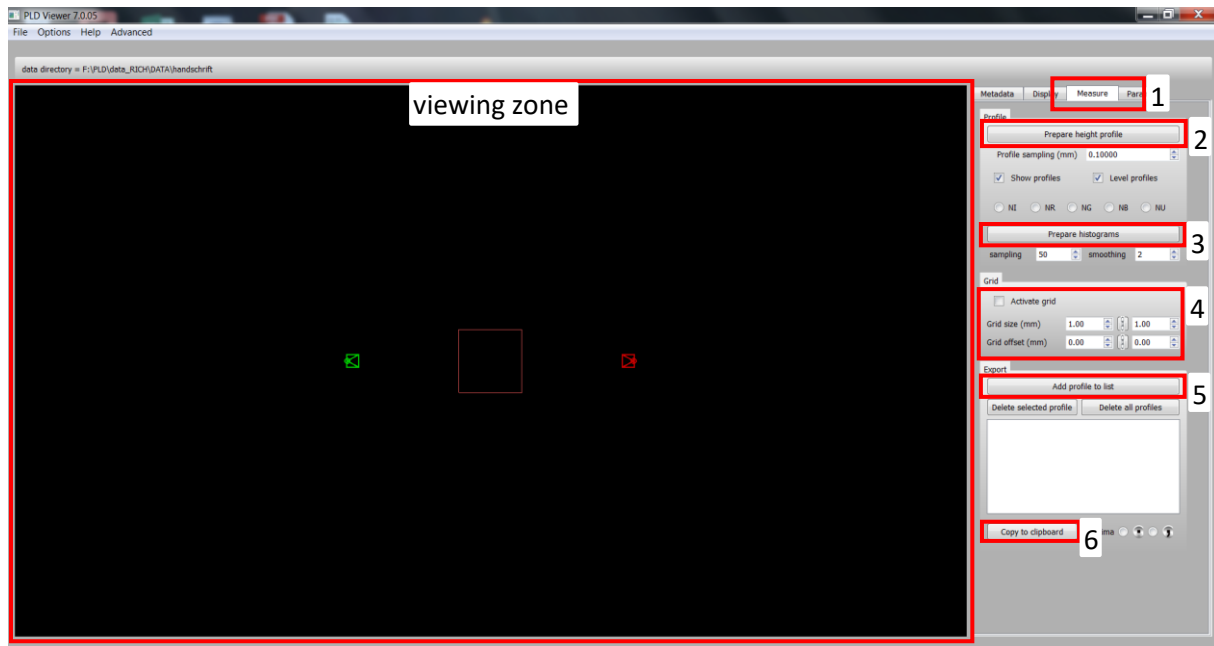

Fig. 2 - The viewing interface when opened, before uploading a dataset, with the Measure tab open
To use the measure tool only the desktop viewer, such as the PLD viewer 7.0.05 interface, can be used. It can be generated with both the compressed (zun/cun) as with the uncompressed (cfd) datasets. Go to the 'measure' tab (see Fig. 2: frame 1) and click 'Prepare height profile' (see Fig. 2: frame 2, this information will now be calculated in the background, it will take some time).⁸ Now toggle M on the keyboard to activate the 'Measure Distance/Profile' tool in the viewing zone. By dragging lines on the surface the geometric information across that line is plotted.
- In one and the same viewing zone multiple measurements can be generated. When a line is dragged and a profile is plotted in the viewing zone, add the measurement to the export-list; to do so click on the 'Add profile to list' (see Fig. 2: frame 5). Now multiple extra profiles can be generated with the Measure Distance/Profile tool by repeating this action. At any moment these profile lines can be exported by clicking 'Copy to clipboard' (see Fig. 2: frame 6), these chart line coordinates can thereafter for example be pasted into a txt-file and uploaded into excel or any other software package to generate charts.
- It is also possible to add a grid on top of the viewing zone. Activate the grid in the measure tap under 'Grid' (see Fig. 2: frame 4), it will only work when the Measure Distance/Profile tool (shortcut 'M' on the keyboard) is active. This can be used throughout every color, shader and normal map modus. When the grid is activated, the lines dragged in the Measure Distance/Profile tool will jump from one grid junction to the other. This 'Grid size' and 'Grid offset' can be changed as is pleased (see Fig. 2: frame 4).
To generate a histogram go to the 'measure' tab and click 'Prepare histograms' (see Fig. 2: frame 3); now, in the background, the system calculates the needed information to fuel this tool. Toggle 'H' on your keyboard to activate the 'Measure Histograms' tool in the viewing zone. By dragging a rectangular zone with the mouse (left click) on the imaged surface a histogram for that zone or pigment will be plotted. Use the + or - keys on your keyboard to change the size of the histogram plot-area (standard that area is small); toggle 4 (←) or 5 (→) and 8 (↑) or 2 (↓) to spread out the curves of the histogram over the plot-area.